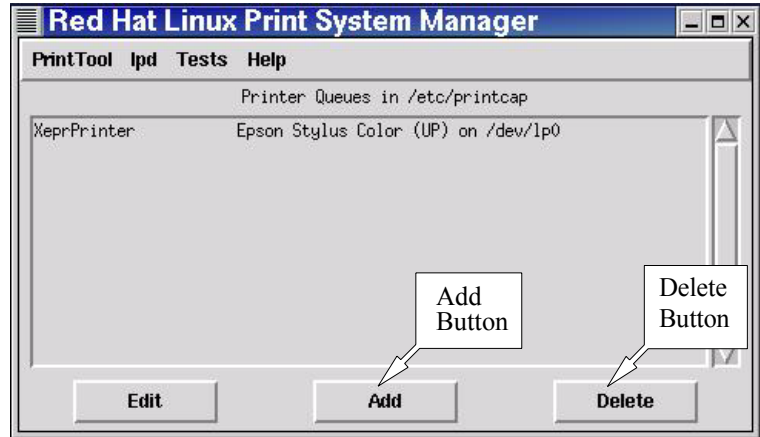

Figure 16-14 The Print System Manager dialog box.
2. **Delete the printer that does not work.** If the listed printer does not work, select it by clicking its entry with the left mouse button and then click the Delete button. (See Figure 16-14.).